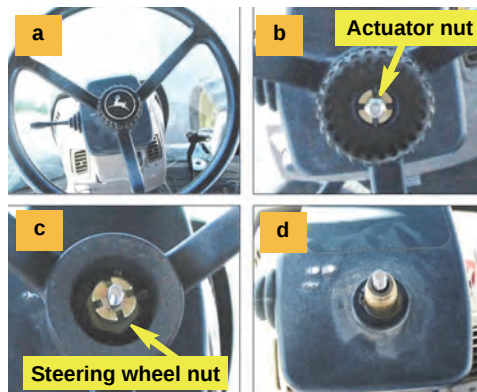

Figure 3 (a-d): Removing the steering wheel
- The steering wheel center cap (Figure 3-a).